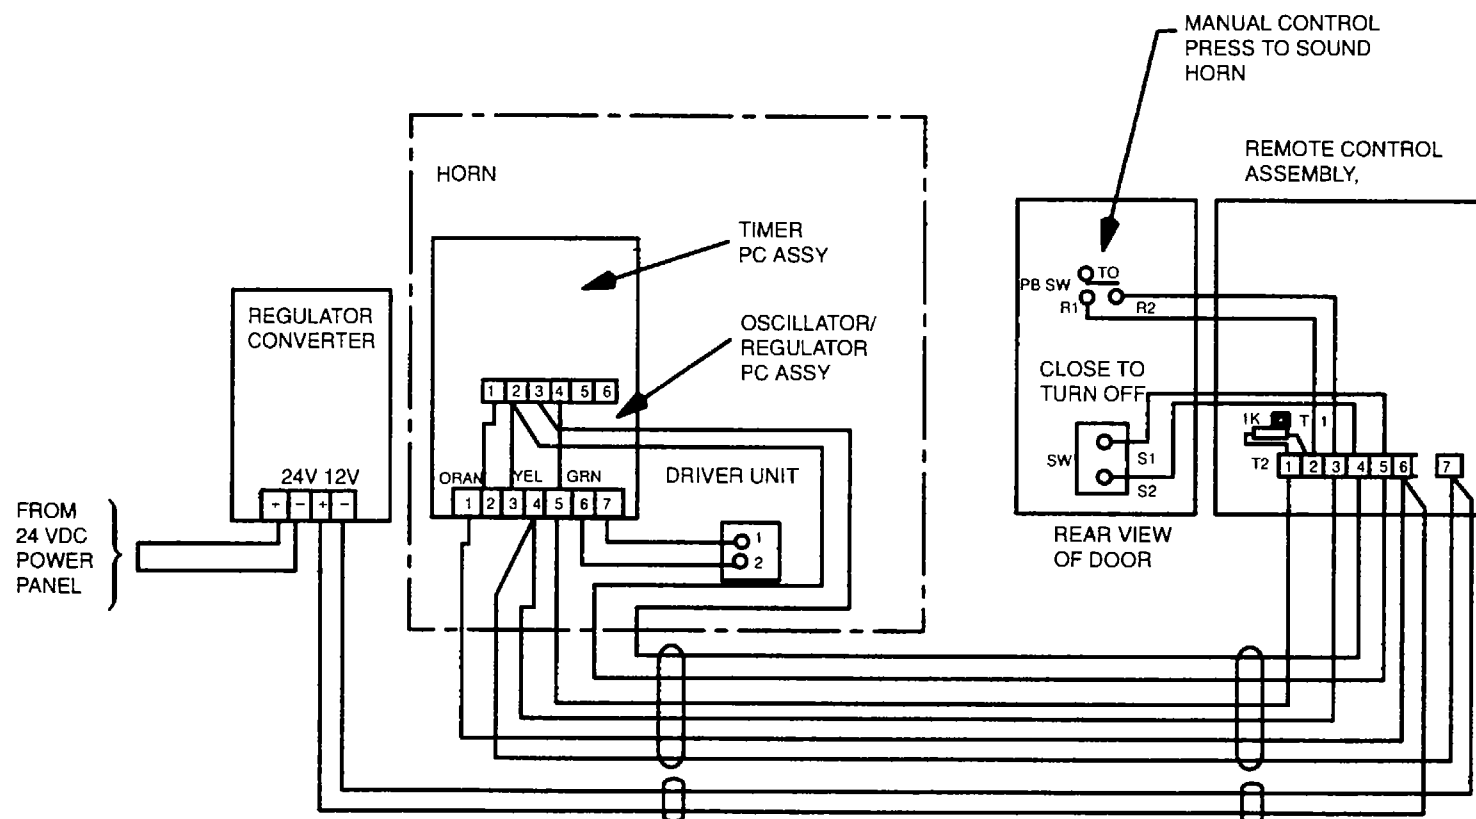

Figure 3-2. Foghorn Wiring Diagram
- a. With 24 Vdc power panel circuit breaker 6P14 closed (ON), check voltage at 24 Vdc inputs to regulator (converter assembly) for 24 Vdc (see Figure 3-2). If voltage is not 24 Vdc, go to step b. If voltage is 24 Vdc, go to step c.
- f. Open (OFF) 24 Vdc circuit breaker 6P14 and disconnect wires from TB2 and TB3 at timer terminal board. Check continuity of remote circuit between two wires from TB2 and TB3. With remote switch closed, circuit must be closed and with remote switch opened, circuit must be open. If improper operation exists, go to step (1). If proper operation exists, go to step g.
- (1) Check continuity between points S1 and S2 at switch SW when switch is closed and open circuit when switch is open. If switch indicates proper operation, go to step (2). If switch indicates improper operation, replace switch.
- (2) Check continuity between point S1 at switch SW and TB4 and between point S2 at switch SW and TB5 at remote control assembly. If open circuit exists, repair or replace cable from remote control terminal board to remote switch SW. If continuity exists, repair or replace cable from remote control assembly TB4 and TB5 to timer TB2 and TB3 Reconnect all wires.
- g. Reconnect all wires from step f and disconnect wires from TB4 and TB5 at oscillator/regulator PC assembly. With remote PB-SW switch pressed, check continuity of circuit between wires from TB4 and TB5. If continuity does not exist go to step (1) if continuity exists, go to step h.